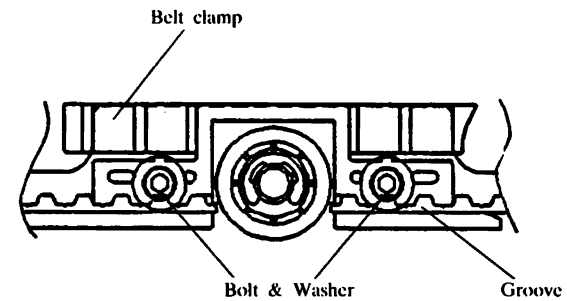

Fig. 77
- (1) Take out the driving belt. (Refer to item 10)
- (2) Remove the bolts (5×30) and washers for the belt clamp, then pull out the Driving belt. (Refer to Fig. 77)
- (1) Fit the racks of the belt to the groove of the clamp, then fix them with the bolts and the washers. (Refer to Fig. 77)